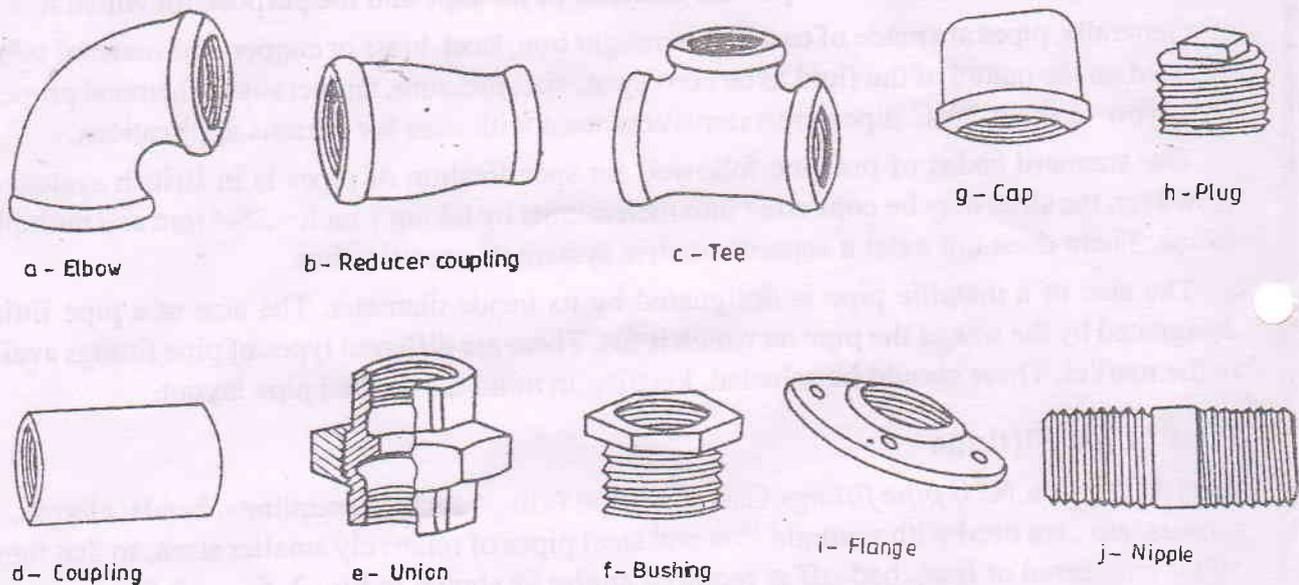

Fig. 2.6 G.I pipe fittings
2.3.1.2 G. I pipe fittings Wrought iron is coated with zinc by a process known as galvanizing, to make galvanized iron (G.I) pipe fittings, which do not rust readily like C.I fittings. Some of the commonly used G. I pipe fittings are shown in Fig. 2.6.